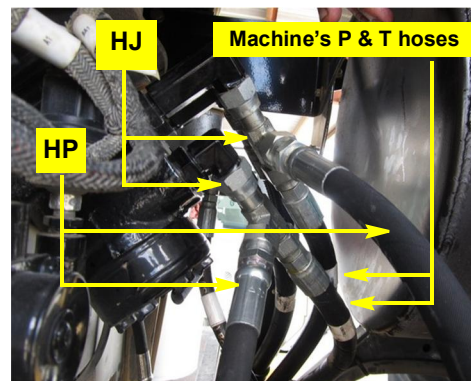

Figure 4b: Pressure and tank hoses connected to run-tees
Disconnect the machine's hoses, install run-tees **HJ** (face them to the machine's right side) and reconnect the machine's hoses to the open 'T' end of each run-tee (Figure 4a inset and Figure 4b).
- b. Connect the straight ends of tank and pressure hoses **HP** to the open stems of run-tees **HJ** (Figure 4b).